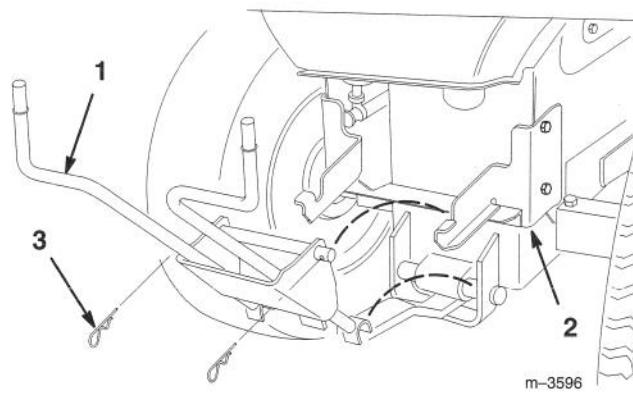

Figure 27
4. Remove the hairpin cotters from the holes at the bottom of the quick-attach bracket (Fig. 27).
5. Lift the quick-attach bracket from the hitch (Fig. 27).